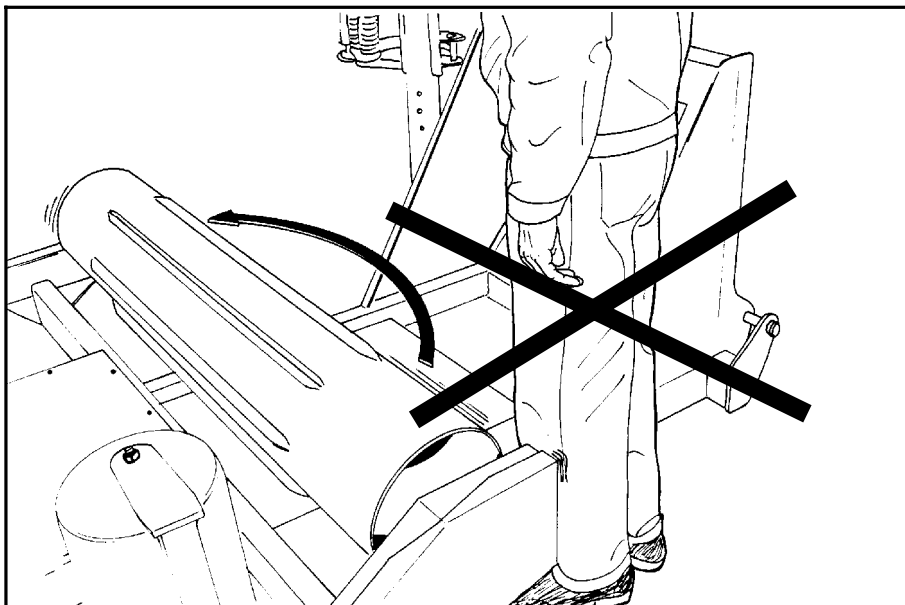

Fig. 2-1
**Removing of, or neglect to mount the protection ring, will result in a squeeze danger between the main frame and the turntable.** (Fig. 2-1).